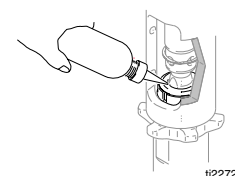

FIG. 12
3. (Fig. 12) Fill packing nut with Graco TSL.